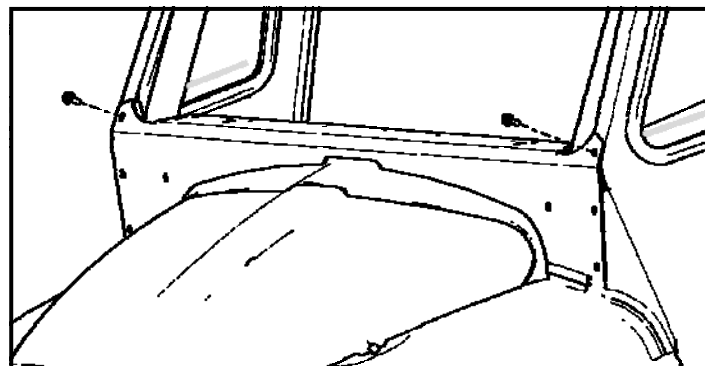

Figure 10.1: Cowl
- (2) 5/16-18 Flanged nut
With an assistant, place the cowl on the front of the A-pillars and attach with two (2) 5/16 x 3/4" screws and nuts at the locations shown. Leave loose. (**Figure 10.1**).